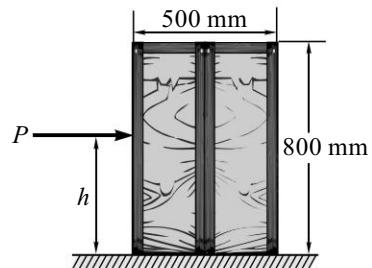

Fig. 8.E30
31. A cupboard of 750 N weight is placed over an inclined plane with $\mu = 0.20$, as shown in Fig. 8.E31. Find the range of values of h where force P may be applied parallel to inclined plane to hold it in equilibrium.